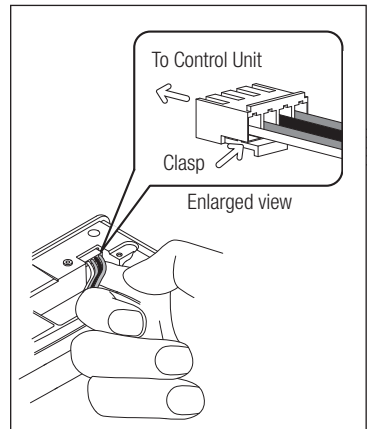

Fig. 8
- 5) To remove the connector, press the clasp underneath the connector to release it. (Fig.8)